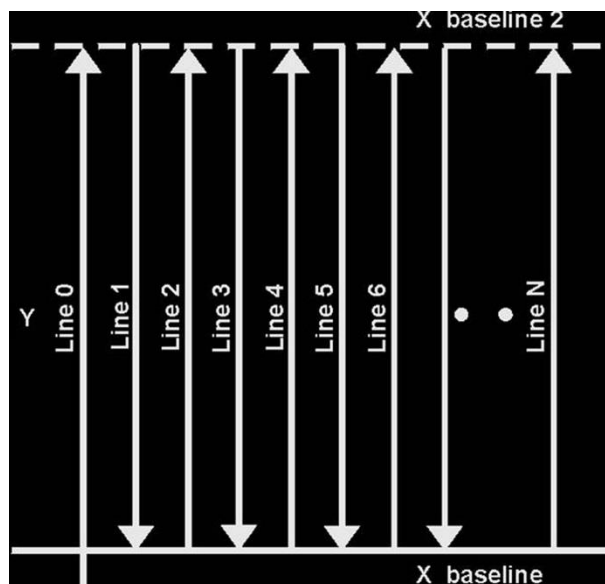

Figure 7-4: Forward/Reverse grid line collection
**Line Pattern** - Grid lines can be collected in one direction (Forward) or in a back-and-forth pattern (Alternating) (Figure 7-4). Collect lines in forward mode when possible. Press this button to toggle between modes.